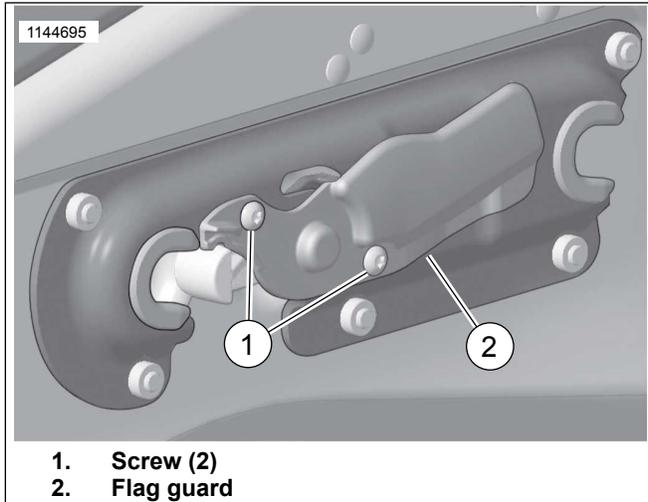

Figure 5. Flag Screws
1. Refer to Figure 5. Remove flag guard screws (1) and flag guard (2).
- Refer to Figure 5. Place threadlocker onto flag guard screws (1).
- Install flag guard (2) and screws. Tighten.